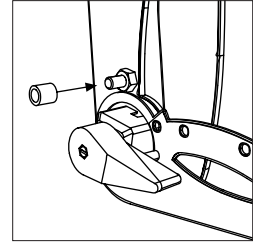

Figure 13: Elbow-stop pad replacement
3. Press the piece of tubing onto the post (Figure 13).